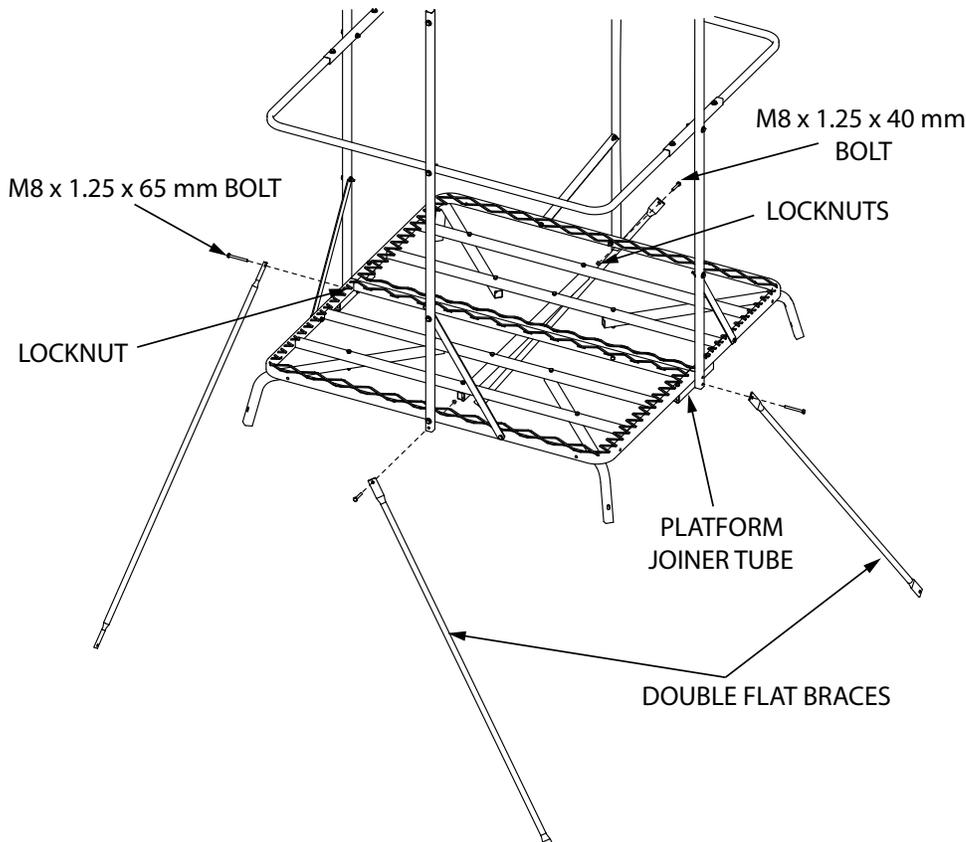

FIGURE 10
- a. Attach (2) double flat braces (TP135) to the bottom hole of each blind upright (TWR18) that is already attached to the long side of each platform using (2) provided M8 x 1.25 x 40 mm bolts and locknuts. **SEE FIGURE 10**
- b. Attach remaining (2) double flat braces to blind uprights/platform joiner tubes using (2) provided M8 x 1.25 x 65 mm bolts and locknuts. **SEE FIGURE 10**